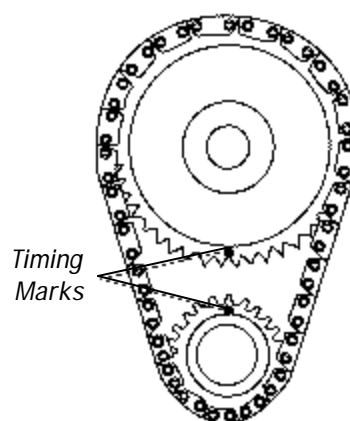

Figure 2 - Timing Chain Sprocket Alignment
15. Remove fuel pump and fuel pump pushrod. Rotate engine until timing marks are aligned as in *Figure 2*.
2. Install new camshaft with new sprockets and timing chain align timing marks as shown. See *Figure 2*.
3. Install camshaft with timing marks lined up as recommended by factory specifications. See *Figure 2*.
- **PUSHROD AND ROCKER ARM INSTALLATION** - After the cam is installed and timed correctly (see *Figure 2*), install pushrods, lifters and rocker arms. NOTE: High performance adjustable rocker arms must be used with screw-in rocker arm studs and guide plates. Stock cylinder heads may require machining to install screw-in studs. Hardened steel pushrods MUST be used with guide plates. Longer than stock pushrods may be required.